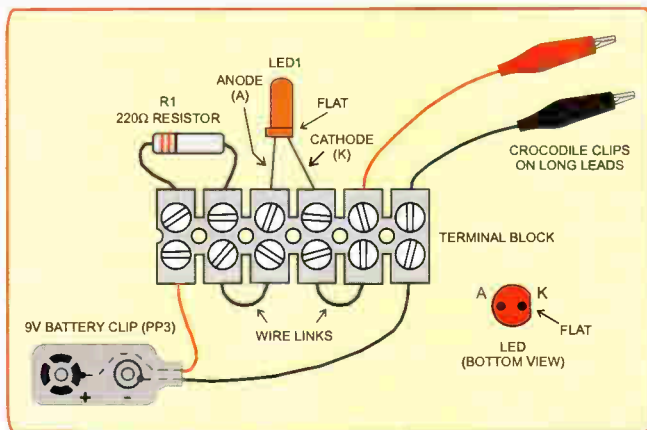

Fig.1.4: Assembly of the Circuit Tester
YOU will find this simple project a handy way of checking the electrical properties of some components and circuits that you will be using when assembling projects on Protobloc. However, instead of using a Protobloc for this project, it has been assembled on a 6-way length of screw-terminal block, as shown in Fig.1.4. Its circuit diagram is shown in Fig.1.5.
Follow the wiring of the terminal block as shown in Fig.1.4, making sure that LED1 is connected so that its anode (A) lead is in the position shown on the terminal block. The other lead is known as the cathode (K). Usually, the anode is the slightly longer lead.